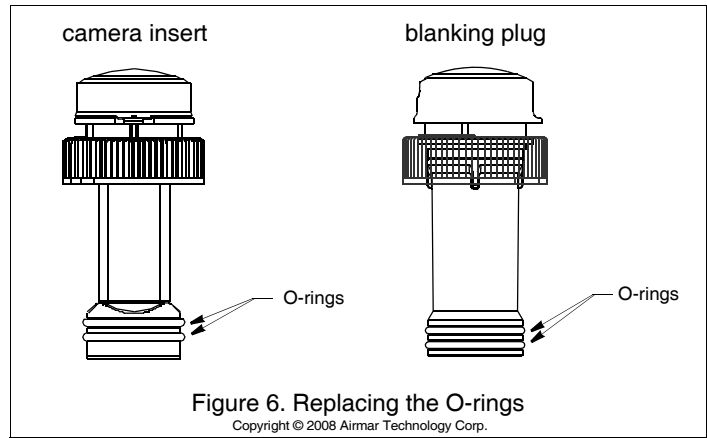

Figure 6. Replacing the O-rings
1. On the blanking plug, inspect the O-rings (replace if necessary) and lubricate them with the silicone lubricant supplied or petroleum jelly (Vaseline®) (see Figure 6). The O-rings must be intact and well lubricated to make a watertight seal.
O-rings must be free of abrasions and cuts to ensure a watertight seal. Replacement O-rings are available. Install two O-rings on the camera insert and two O-rings on the blanking plug (see Figure 6).